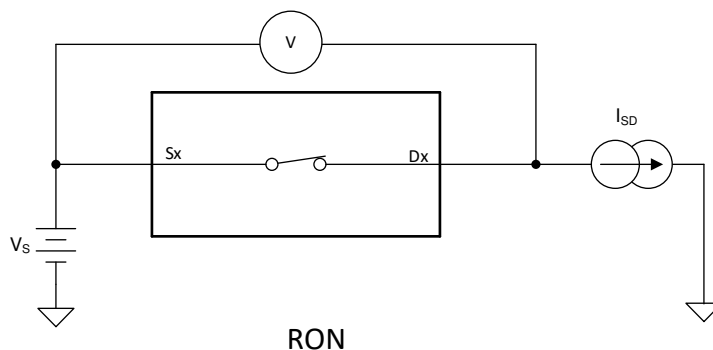

Figure 7-1. On-Resistance
The on-resistance of a device is the ohmic resistance between the source (Sx) and drain (D) pins of the device. The on-resistance varies with input voltage and supply voltage. The symbol R_{ON} is used to denote on-resistance. Figure 7-1 shows the measurement setup used to measure R_{ON} . Voltage (V) and current (I_{SD}) are measured using the following setup, where R_{ON} is computed as $R_{ON} = V / I_{SD}$: